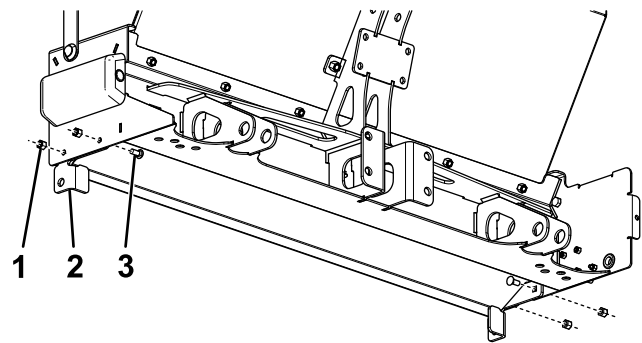

Figure 6
3. Secure the bed stops to each side of the spreader frame using 4 bolts (5/16 inch) and locknuts (Figure 6).